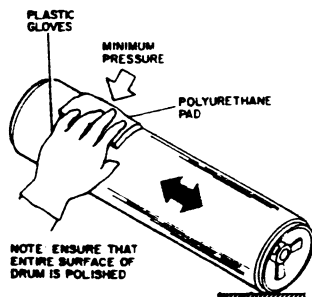

Figure 4. Polishing the Drum
2. CLEAN THE ENTIRE DRUM WITH THE POLISH (FIGURE 4).